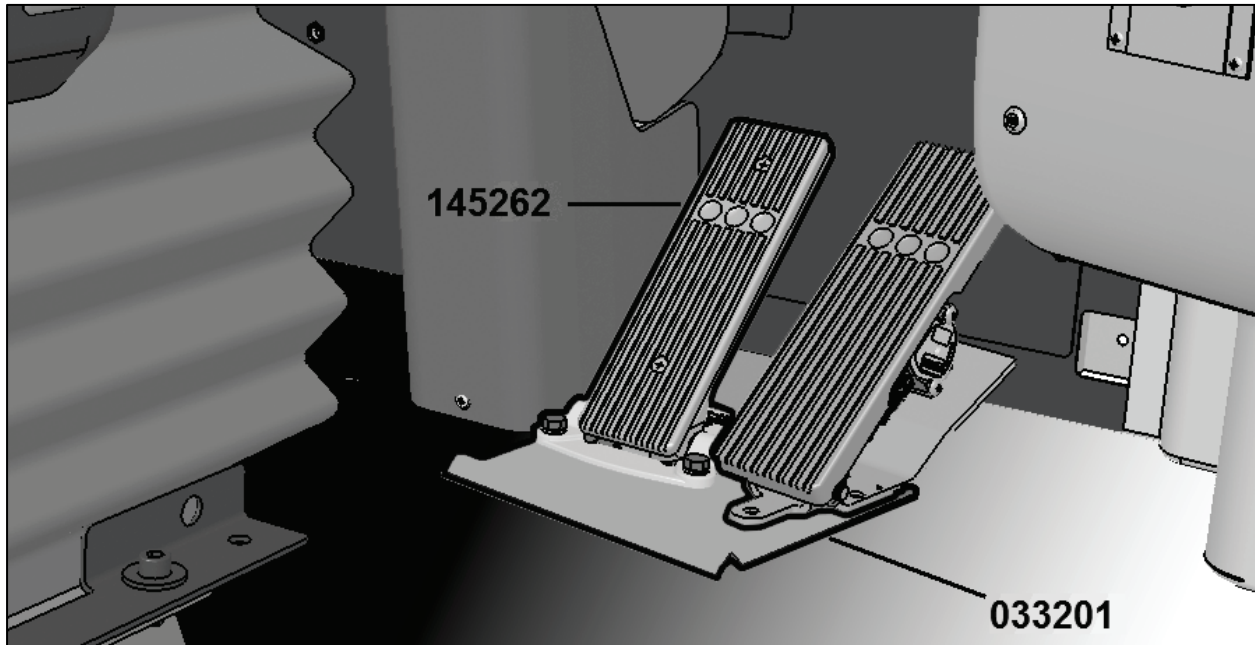

Figure 6
16. Assemble brake pedal and fuel pedal with Loctite 243 (Blue). Tighten to 7 lbf-ft. (Fig. 6)